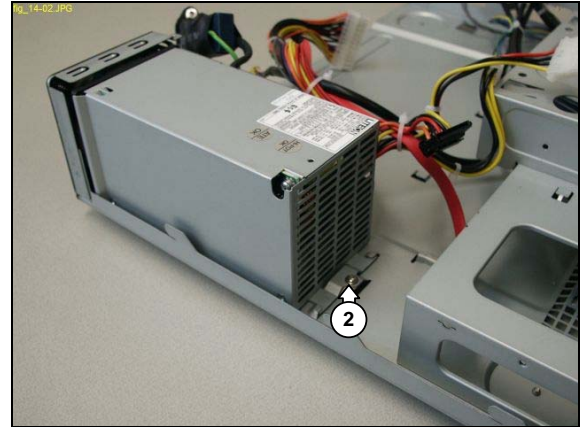

Figure 12.14-2
9. Remove the mounting screw (2) from the PSU. See Figure 12.14-2.
5. Remove the mounting screw (2) from the PSU. See Figure 12.14-2.